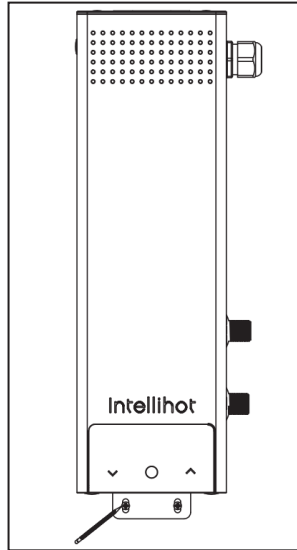

Figure 4
1. An additional bracket is provided for seismic bracing as shown in Figure 4.